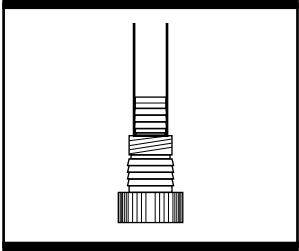

Fig. 1a
- (1). The submersible water pump is supplied with a hose connector (7a) and additional hose connector (15). Hose connector (7a) and adaptor (7b) need be connected to lower outlet nozzle (8). Additional hose connector (15) and additional adaptor (14) need be connected only to upper outlet nozzle (4).
- (2). Connect one appropriate discharge pipe (not supplied) to hose connector. Supplied hose connector can be connected discharge pipe with 38mm (1½") or 25.4mm (1"). Ensure the diameter of the discharge pipe is same as or greater than the outlet diameter of universal hose connector, a smaller discharge pipe will adversely effect the pump flow rate.
- a. When using a 25.4mm (1") hose, do not cut off any ridges of the connector, connect discharge pipe with 25.4mm (1") to hose connector and it is recommended to secure the discharge pipe with one hose clamp (no supplied). (See Fig. 1a)